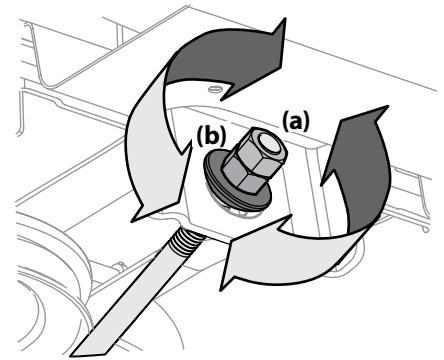

Figure 4-5
5. To raise the front of the deck, remove the end cap, loosen the outer nut (a) then tighten (thread inward) the inner nut (b) against the front hanger bracket. See Figure 4-5. When proper adjustment is achieved, re-tighten the outer nut (a) and replace the end cap.
6. To lower the front of the deck, remove the end cap, loosen the outer nut (a) then loosen (thread outward) the inner nut (b), away from the front hanger bracket. See Figure 4-5. When proper adjustment is achieved, re-tighten the outer nut (a) and replace the end cap.